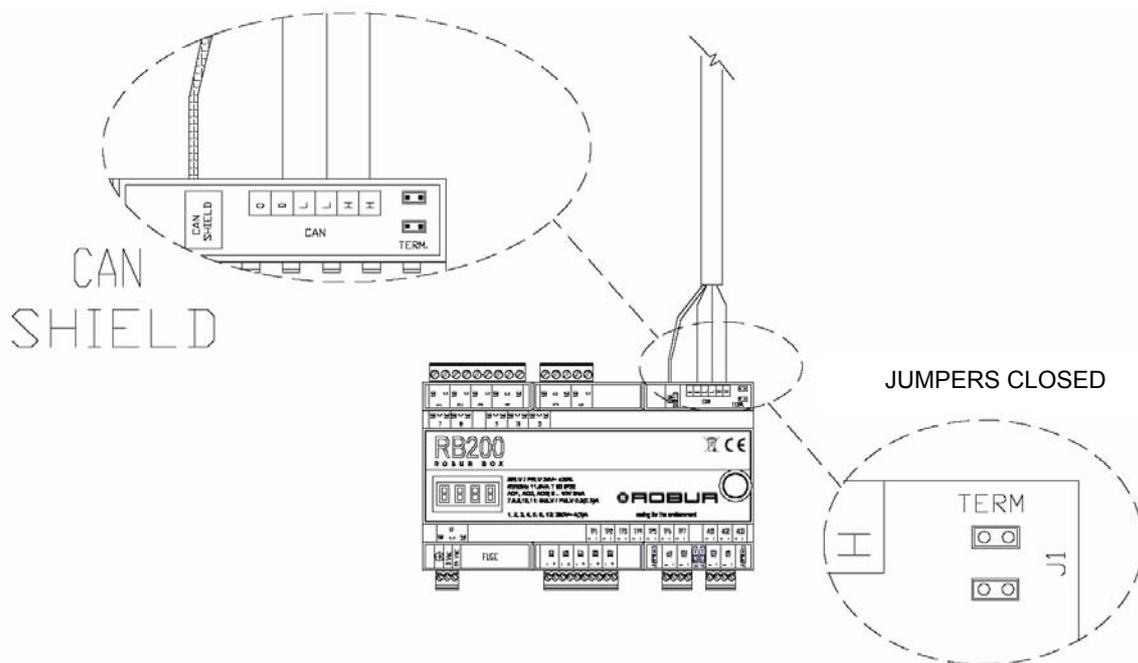

Figure 22 - Connection of 1 CAN BUS cable to RB200: Appliance IS A FINAL NODE. Positions for CAN BUS cable wires and jumpers are pointed out: CLOSED.
6. Connect the three coloured wires to the "CAN" terminal block, referring to Figure 19 parts C and D and to the figure shown in Figure 22.
- If the appliance is a **final node** of the network (in the “CAN” connected on the board there are 3 wires): place the jumpers closed, as shown in Figure 22 and Figure 24, **in the first photo on the left.**